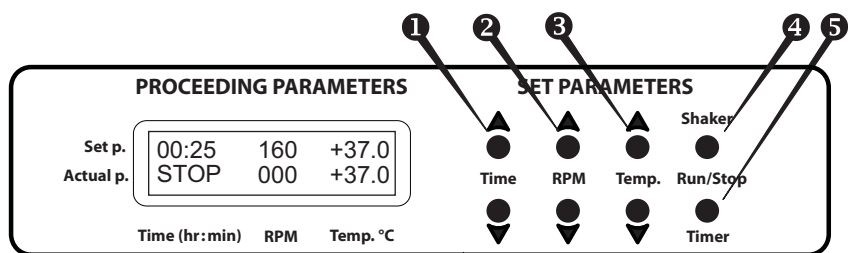

Fig.2 Control panel
- 4.3. Using the ▲ and ▼ **Time** keys (Fig. 2/1) set the required working time interval in hours and minutes (increment - 1 min). Pressing the key for more than 3 sec will increase the increment.
- 4.4. Using the ▲ and ▼ **RPM** keys (Fig. 2/2) set the required shaking speed (increment 10 RPM). Pressing the key for more than 3 sec will increase the increment.
- 4.5. Using the ▲ and ▼ **Temp.** keys (Fig. 2/3) set the required temperature (increment 0.1°C). Pressing the key for more than 3 sec will increase the increment.
- 4.7. Press the **Shaker-Run/Stop** key (Fig. 2/❶). The platform will start rotating and the timer indicator will start counting up the time interval (with 1 min precision).
Caution! At the end of the set time period the platform movement is stopped automatically, but the heating can be stopped ONLY manually by reducing the temperature using the ▼ **Temp.** key (Fig. 2/❷ – the lower key) till the OFF sign appears in the upper line of the display.
- 4.10. The timer can be reset during operation if required. Press the **Timer-Run/Stop** key twice (Fig. 2/❸) (first – to stop the timer, second – to restart the timer).